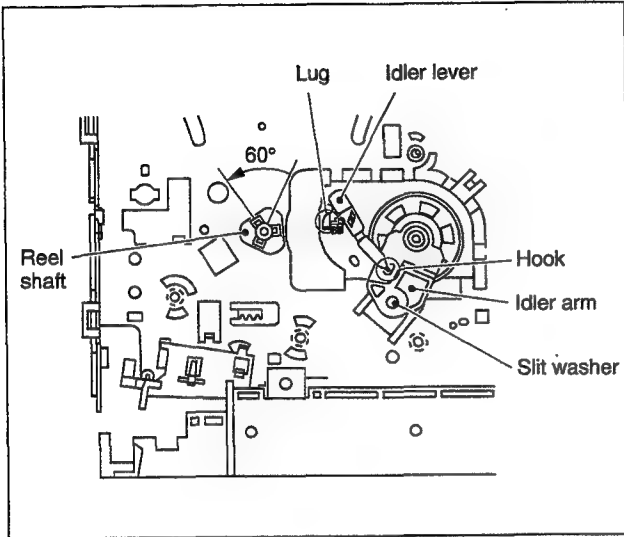

Fig. 2-2-35
- (1) Remove one lug of the idler lever from the main deck and remove the hook fitted in the idler arm hole by lifting it.
- (2) Remove the slit washer and pull out the idler arm.
- (3) Turn the reel shaft counterclockwise through 60 degrees and remove it. (See Fig.2-2-35)